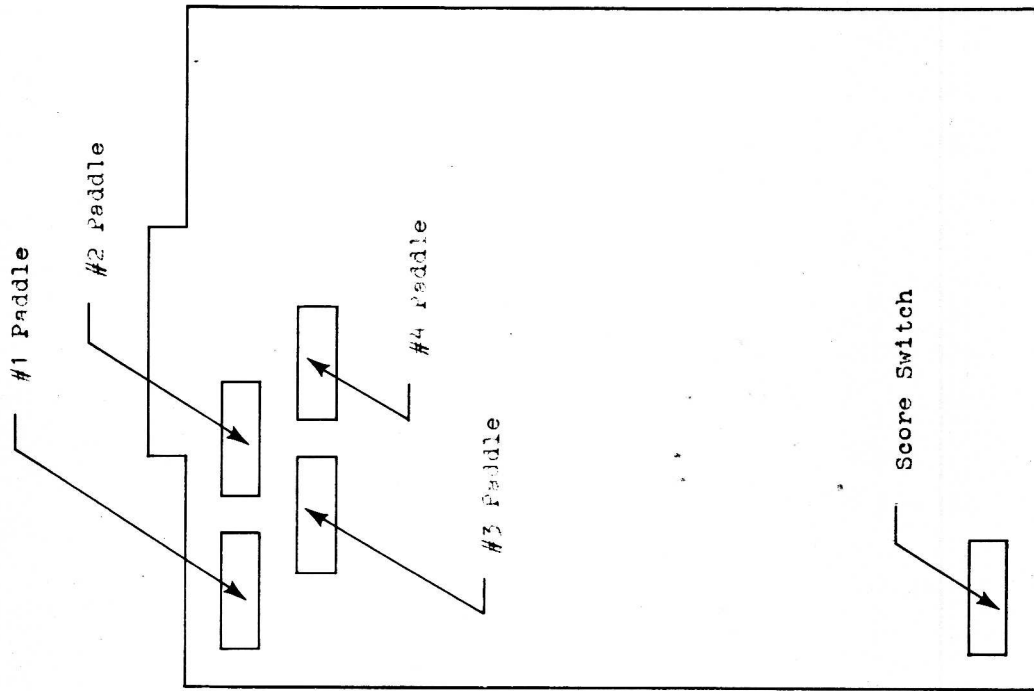

FIGURE 2
Three different adjustments are required for each paddle. Adjustment is performed by turing *potentiometers* or "pots" found on the computer board and on the joystick units (Figures 2 and 3). Two adjustments (one vertical and one horizontal) are located on each joystick and a second set of vertical adjustments is found in the upper left hand corner of the computer PCB.
- c. Adjust the lower limit of paddle travel by turning the appropriate pot located on the computer PCB (Figure 2). Set the